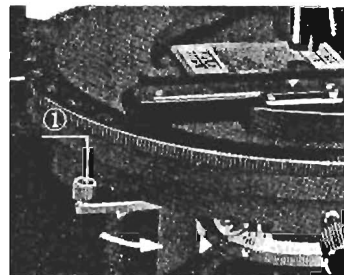

Fig. 9
- ### 3) Rotate the stage until the extinction of the image is attained, and move the 45° click stop lever ① toward the operator (Fig. 9)